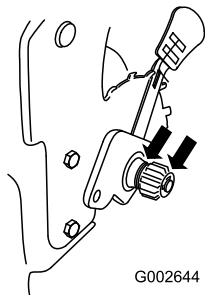

Figure 42
2. Apply a lubricating oil to the inner and outer sides of the gears as shown in Figure 42.